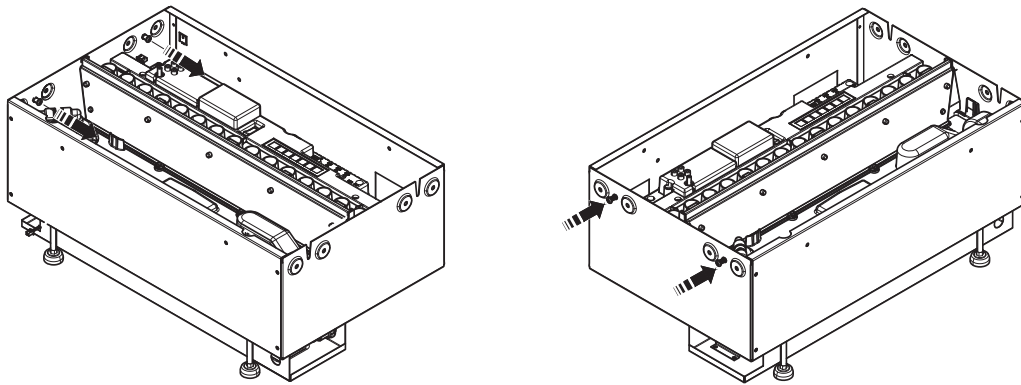

Fig. 18
1. When the first product is installed and securely fixed, prepare the second product by unscrewing the joining screws and screwing them into the opposite side of the metalwork (Fig 18). Please note, these screws should not be fully tightened and 5-10mm of thread should be left protruding from the edge of the product.